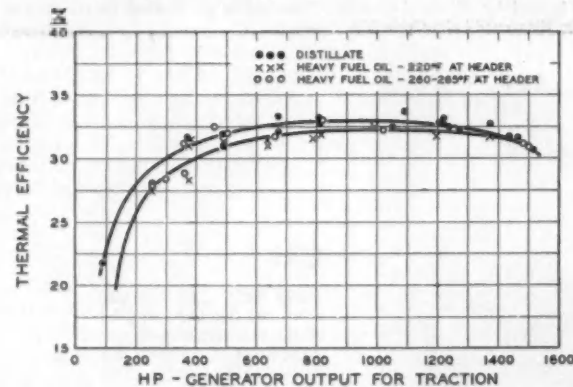

Fig. 1—Relation between thermal efficiency and generator output for traction (4-stroke engine).
1. THERMAL EFFICIENCY with ASTM No. 6 residual fuel is comparable at high load to that observed while operating on ASTM No. 2 distillate fuel. However, the thermal efficiency becomes progressively poorer as the engine load is decreased, as shown in Fig. 1 below.